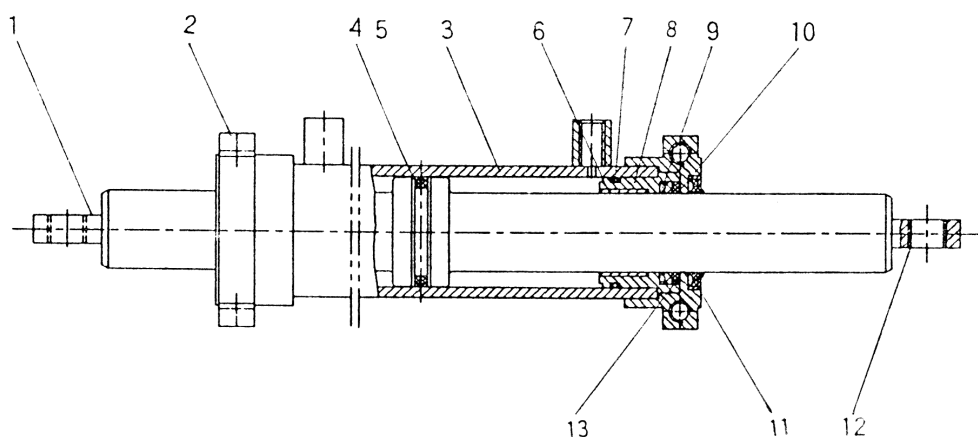

Fig.6-3 Steering cylinder
- (2) Steering cylinder (See Fig.6-3)